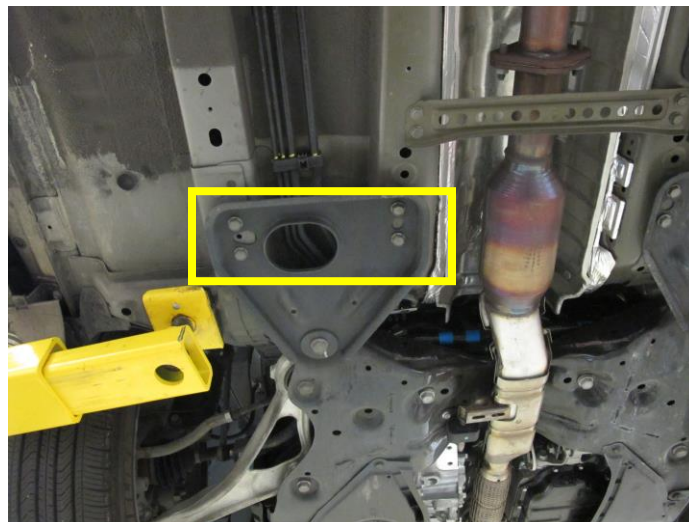

Figure 3
3. Locate Front Suspension Member Stay (LH) and remove four 16MM bolts (Figure 3).